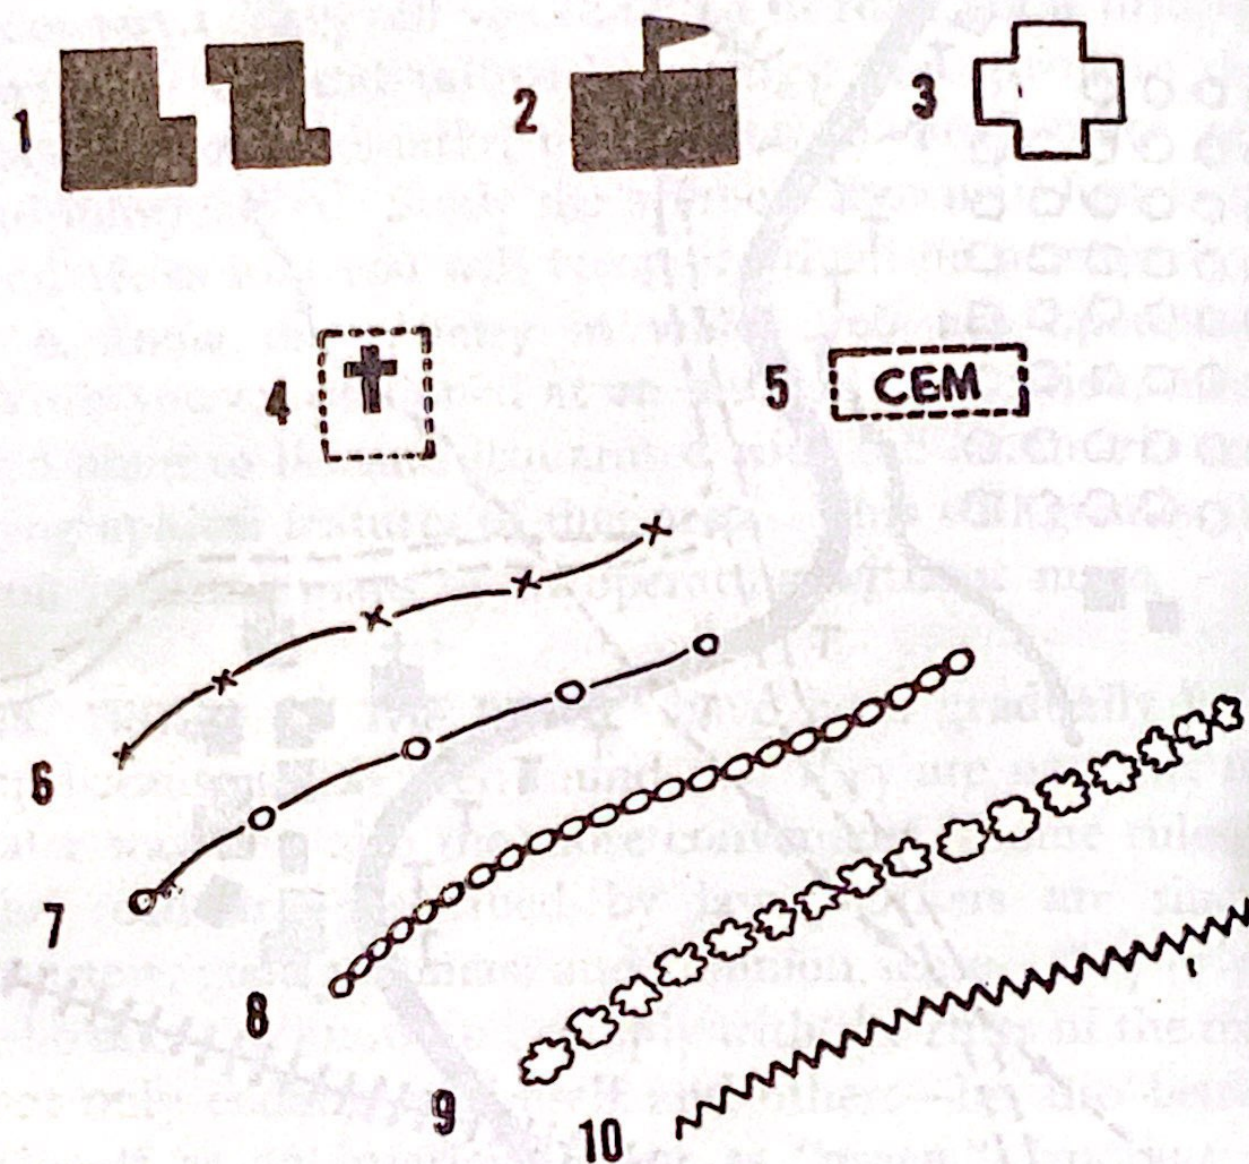

Figure 17. Landmarks.
d. **Map symbols.** Army maps are marked with a standardized set of symbols which will help you find your way. They tell you the kind of road, show bridges, fords, ferries, and railroad crossings; and give you the locations of landmarks, in addition to much other useful information. Study the symbols shown in figures 17 and 18, so that you will recognize them on a map.